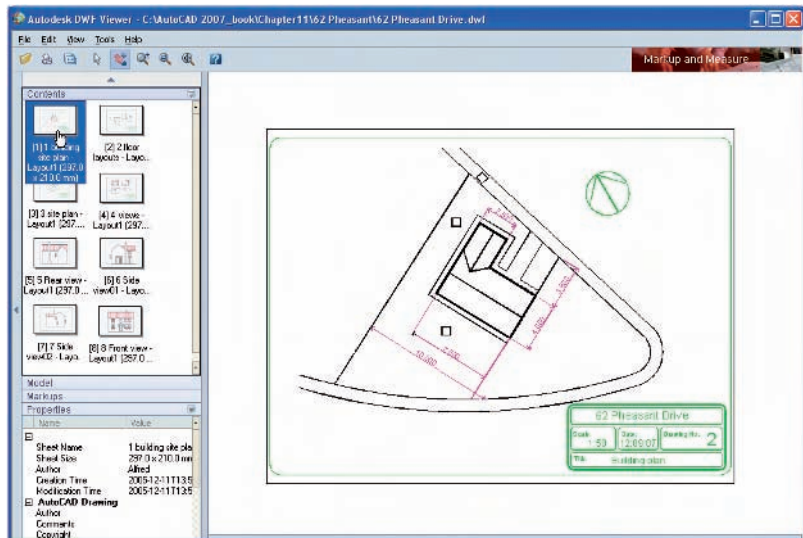

Fig. 11.14 The Autodesk DWF Viewer showing details of the 62 Pheasant Drive.dwf file
2. The Autodesk DWF Viewer window appears showing the **62 Pheasant Drive.dwf** file (Fig. 11.14). Click in any of the icons of the thumbnails of the drawings in the viewer and the drawing appears in the right-hand area of the viewer.